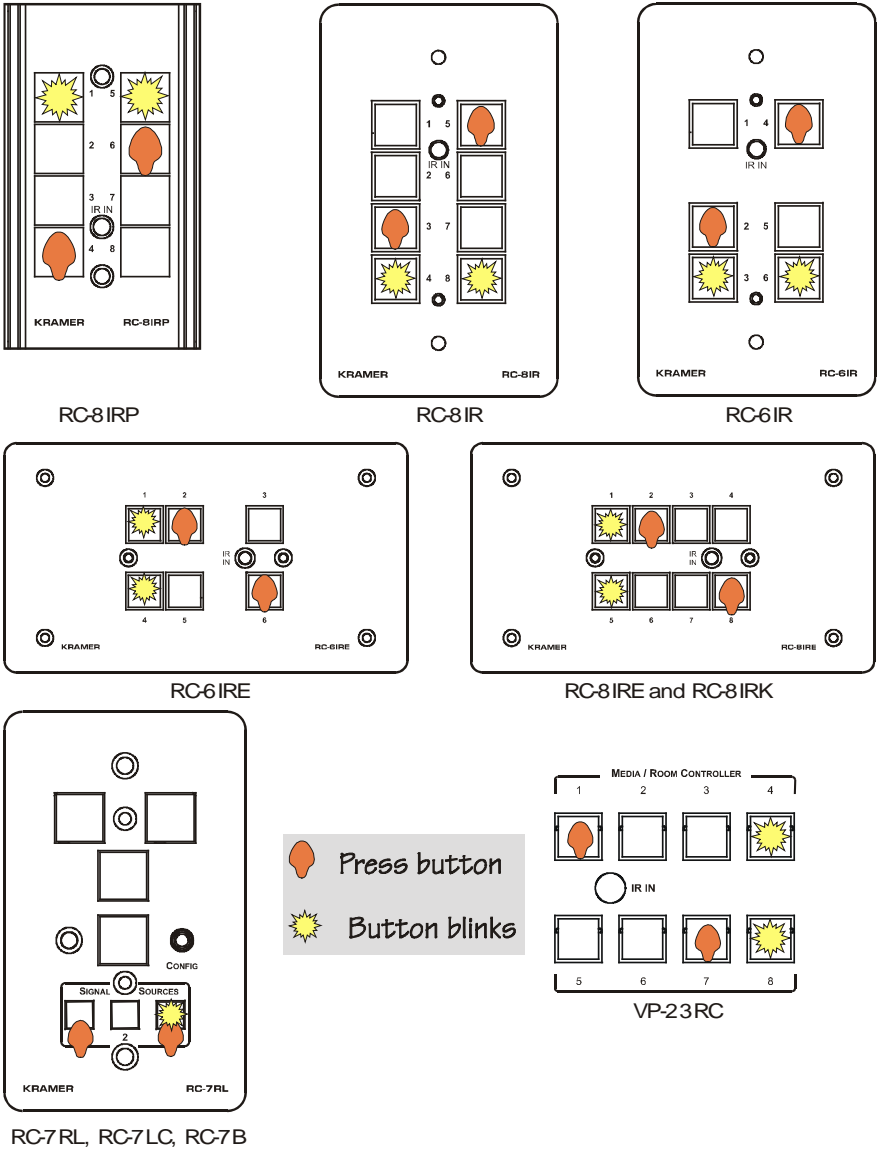

Figure 14: Initializing the IR Learner Procedure
3. Simultaneously press and hold the two buttons (illustrated in Figure 14) for 2 seconds.
The buttons (as illustrated in Figure 14) on the RC device blink sequentially².